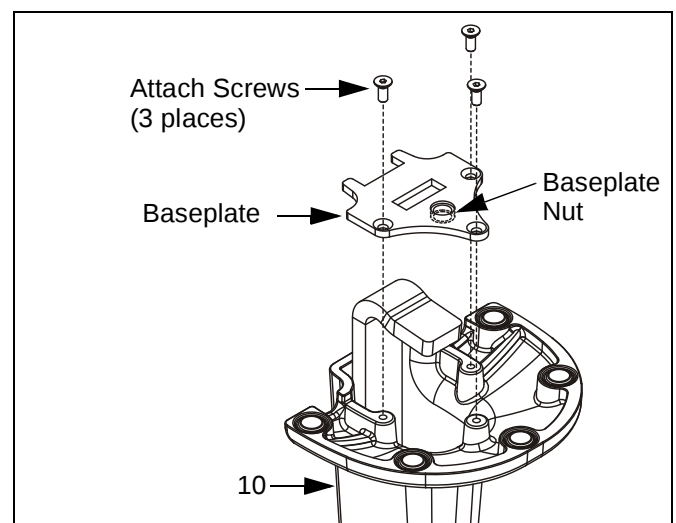

Figure 6: Baseplate
1. Using 2.5mm hex key, remove and retain baseplate and three attach screws from bottom of mount (10) (See Figure 6).
3. Using 2.5mm hex key, re-install baseplate with three retained attach screws. Ensure baseplate nut faces *interior* of mount (See Figure 6). Tighten securely.